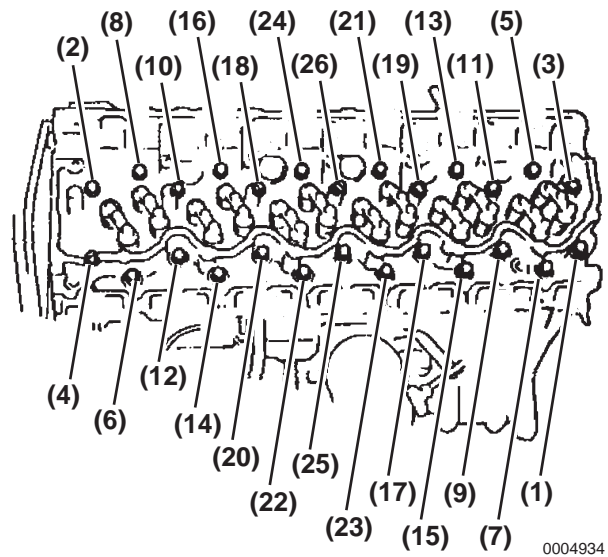

Figure 5-12
16. Loosen and remove the 26 cylinder head bolts uniformly in sequence as shown in **Figure 5-12**. **NOTICE: NEVER remove the bolts at random or the head may warp or crack.**